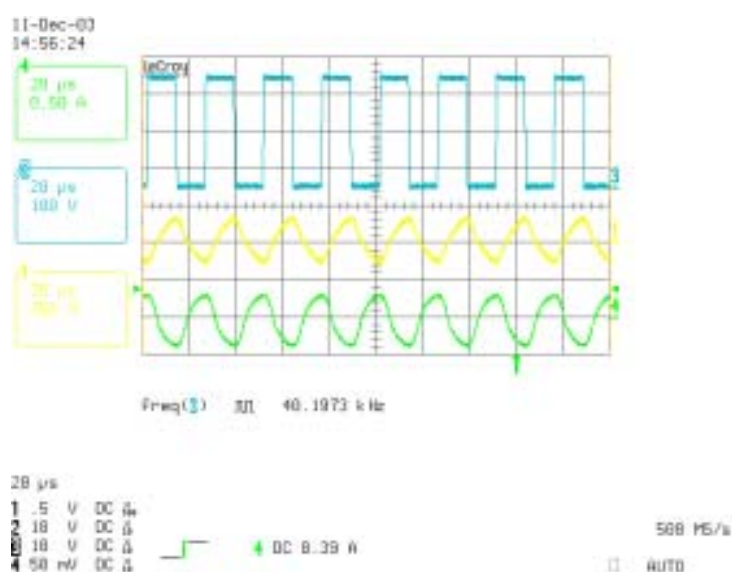

Figure 6.3: VS (HB) Voltage (blue), Lamp Voltage (yellow) and the Lamp Current (green) during Run Mode.
Figure 6.3 shows the VS (HB) Voltage, the lamp voltage and the lamp current during Run Mode.